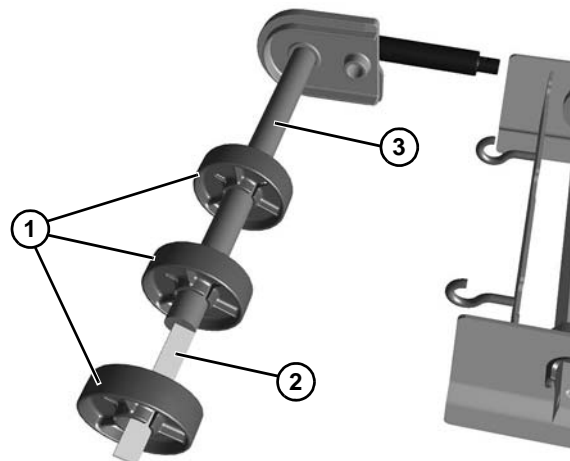

Figure 59
1. Place the pucks (Figure 59, item 1) onto the alignment bar (Figure 59, item 2), and install onto the idler shaft (Figure 59, item 3).
2. Slide all the idler pucks (Figure 59, item 1) along with alignment bar onto idler shaft (Figure 59, item 3).